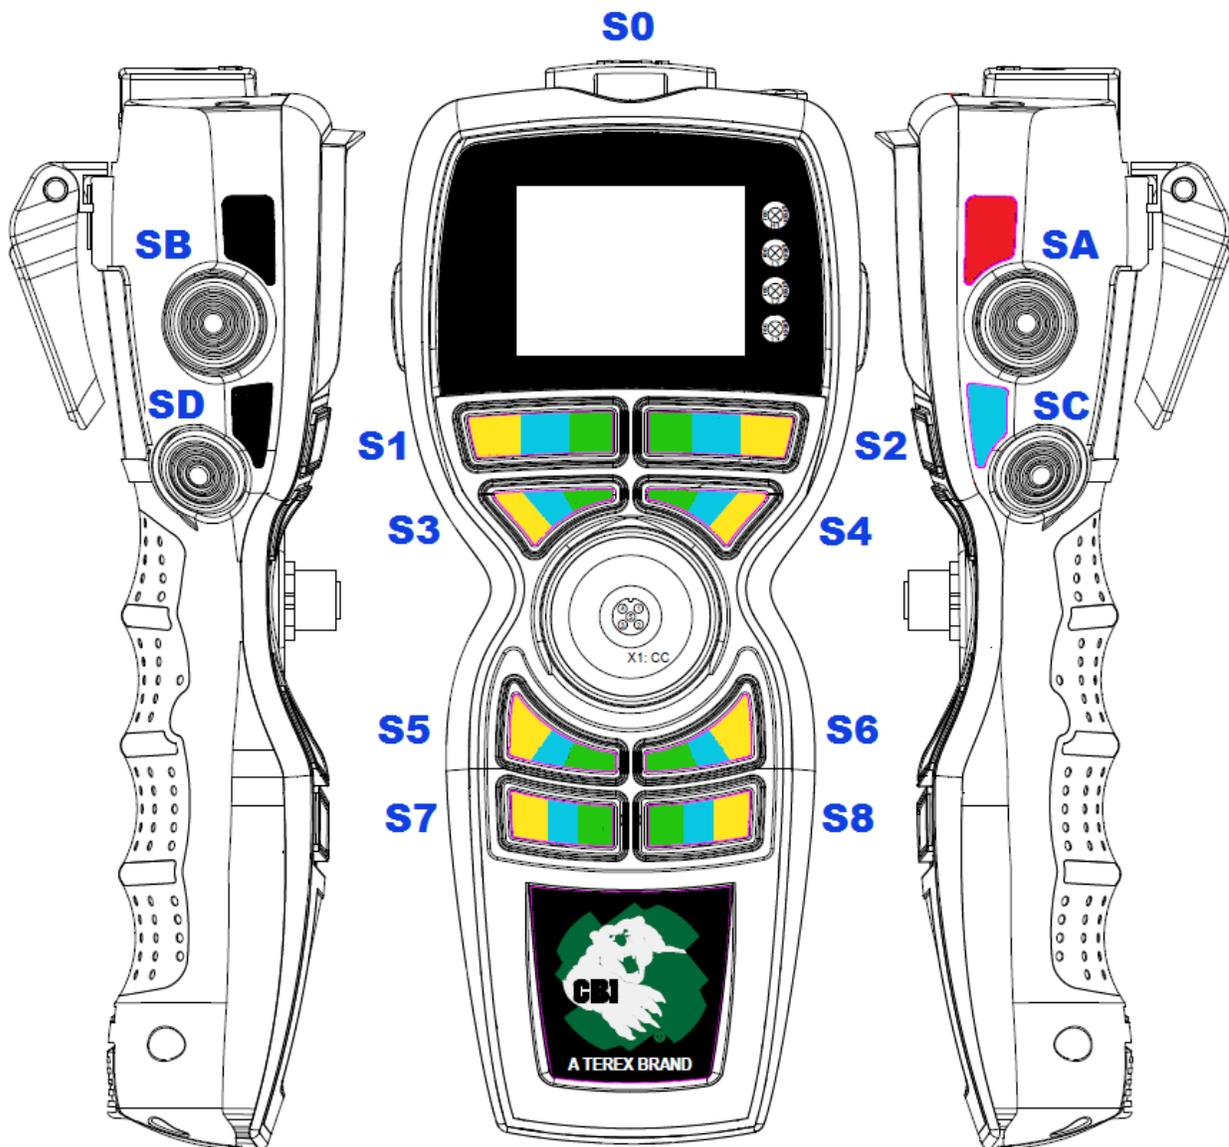

Figure 5.52 - Remote Control
There are twelve buttons (Figure 5.52) on the remote that are used for operating the machine. By utilizing combinations of multiple buttons in conjunction with alternate control schemes (called function modes), the twelve buttons on the controller may be used to control many more than twelve machine functions. For detailed information, see Section 5.10 Remote Control Function Modes.
3. Press the POWER button (Figure 5.52 / SA), the remote will perform a routine initialization upon startup.
4. Pull up on the Emergency Stop button (Figure 5.52 / S0).
2. Press the Emergency Stop button (Figure 5.52 / S0). The remote will display the following screen.
3. Hold the power button (Figure 5.52 / SA) for 2 seconds. The remote will switch off.
(4) Charging The Battery
Auxiliary Function Mode is an alternate control scheme for the remote controller. This mode is identified with the blue portion of the label. To enable auxiliary function mode, hold down the function button (Figure 5.52 / SC); this will enable the auxiliary functions for the other controller buttons. The following is a list of functions controlled by the remote only when the function button is pressed.
Track Function Mode is an alternate control scheme used for moving the machine. This mode is identified with the green portion of the label. To enable track mode, hold down the function button (Figure 5.52 / SC) and the track button (Figure 5.58 / S1) for three seconds. An alarm will sound to notify track mode is enabled and a notification will show up on the control panel screen and the remote screen. Right and left tracks can both be moved forward or in reverse at the same time or separately. To exit track mode, hold down the function button and the track button for one second. The following is a list of functions controlled by the remote only when Track Mode is enabled.
The operator can navigate through the different display pages using the Page Up (Figure 5.52 / SB) and Page Down (Figure 5.52 / SD) buttons.